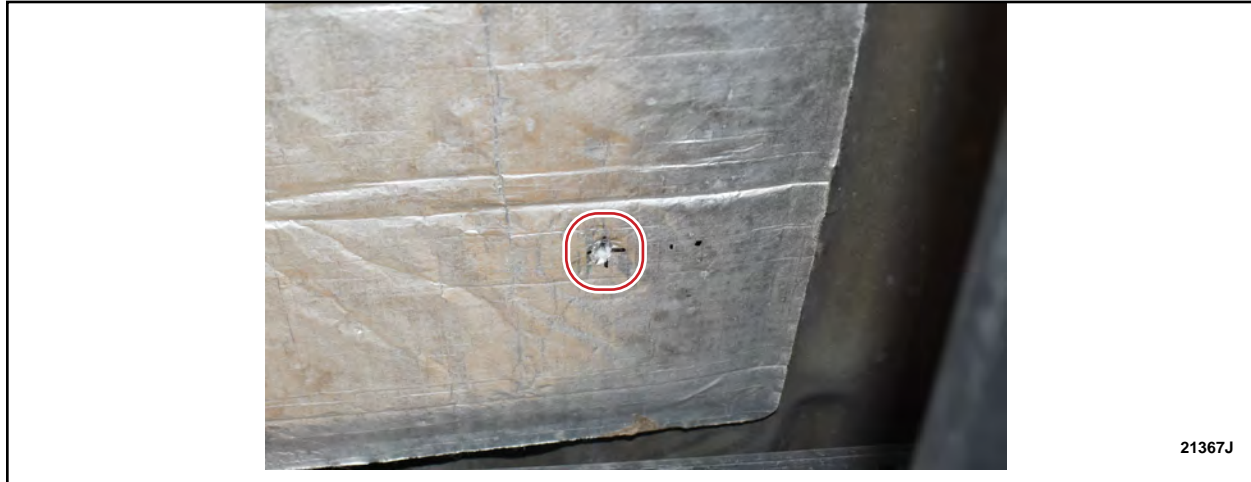

FIGURE 15
15. Use the 5.1 mm (13/64 in) drill bit for rivet part number W719880-S417 or the 6.7mm (17/64 in) drill bit for all other rivet part numbers to drill a hole through the insulator and into the floor. See Figure 15.